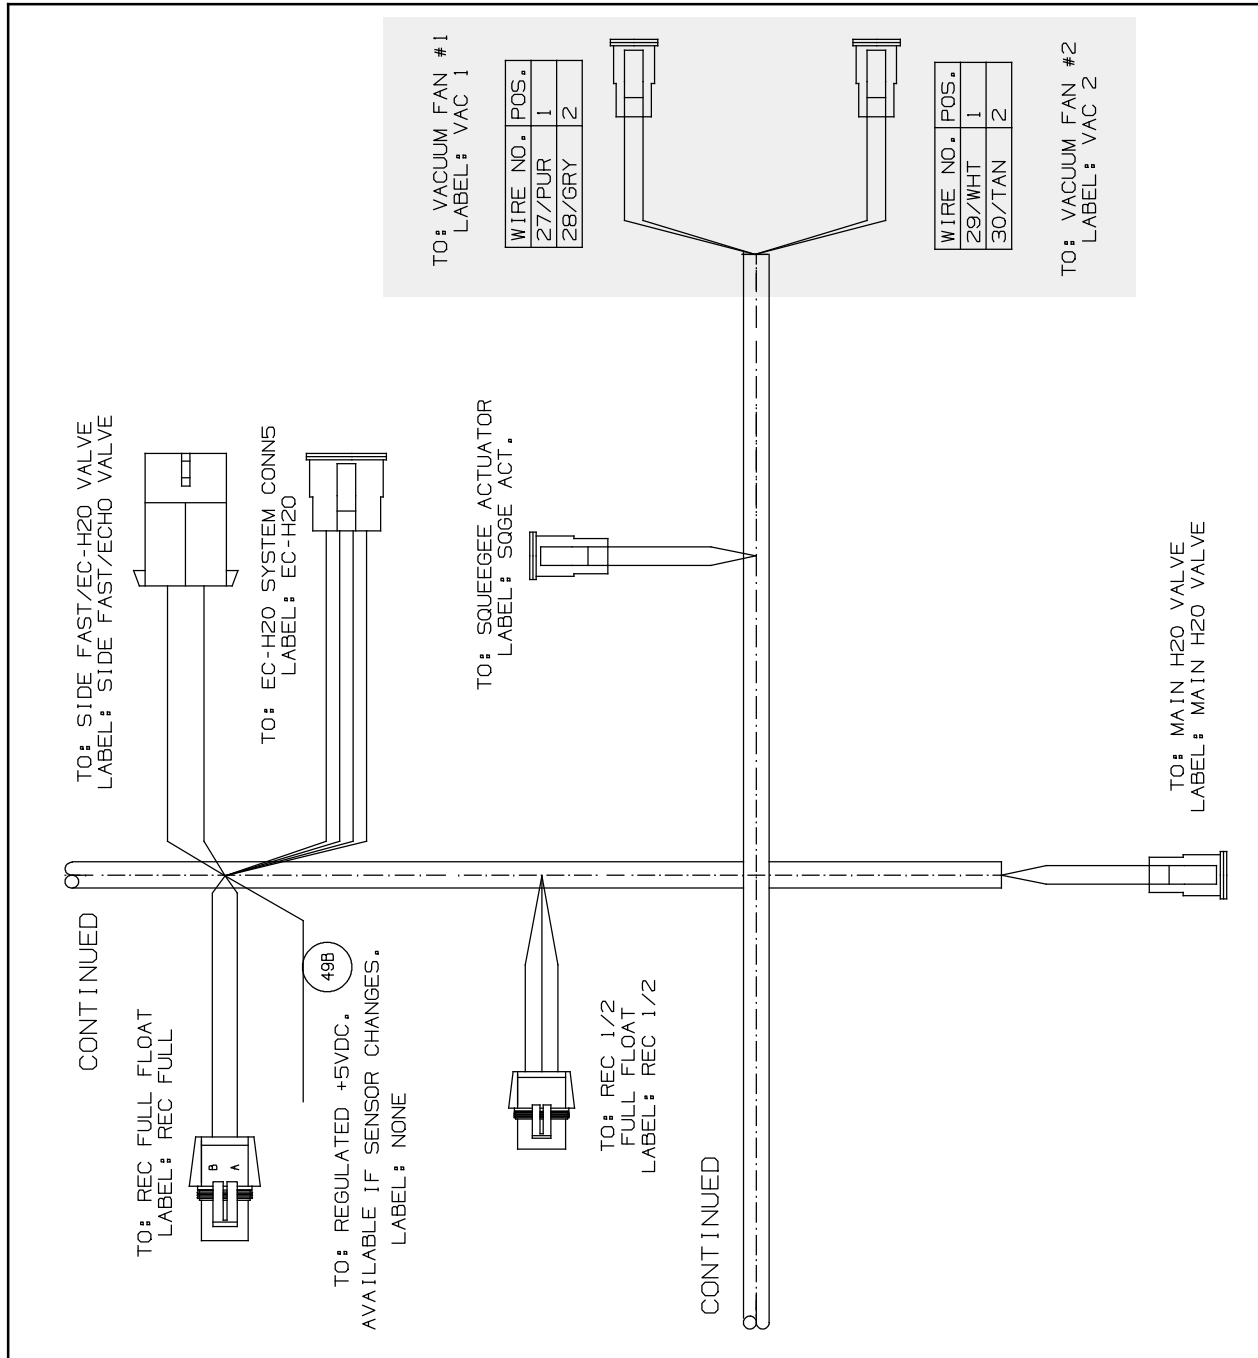

FIG. 4
16. Connect the main wire harness to the vacuum fans (2). (Fig. 4)